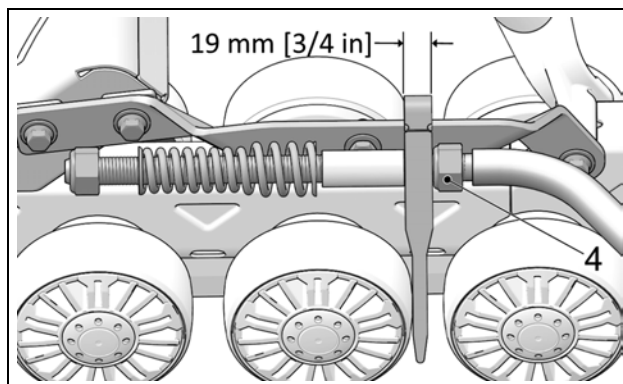

Figure 13
- Set the nut (4) to obtain a distance of 19 mm between nut and stabilizing arm guide as shown on Figure 13.